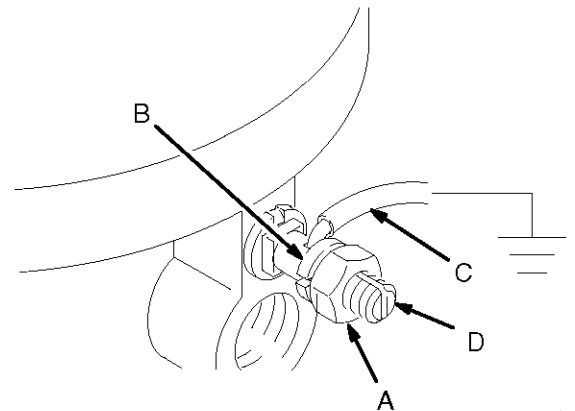

Fig. 1
Loosen grounding lug locknut [Fig. 1 item (A)] and washer (B). Insert one end of a 12 ga (1.5 mm2) minimum ground wire (C) into slot in lug (D) and tighten locknut securely. Connect other end of wire to true earth ground. To order a ground wire and clamp, order part number 222011.